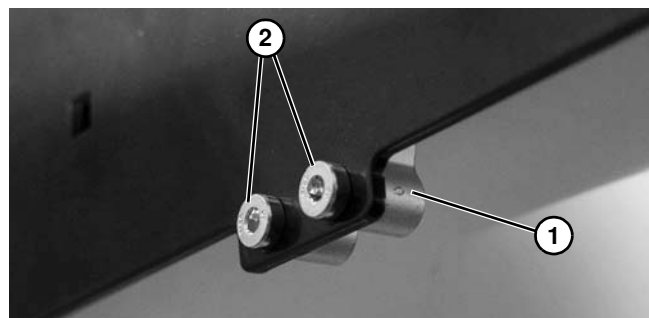

Figure 15
3. Install roller assemblies (**Figure 15, item 1**) as shown. Install and tighten two screws (**Figure 15, item 2**) to 7 Nm (60 in lbs).